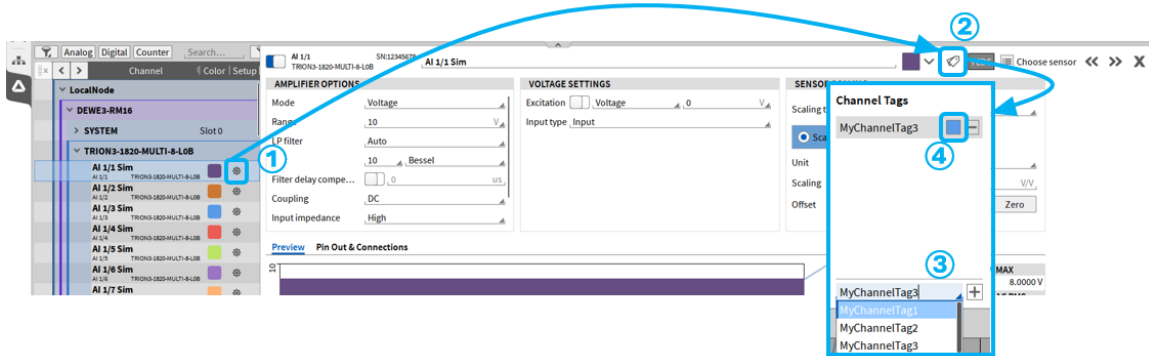
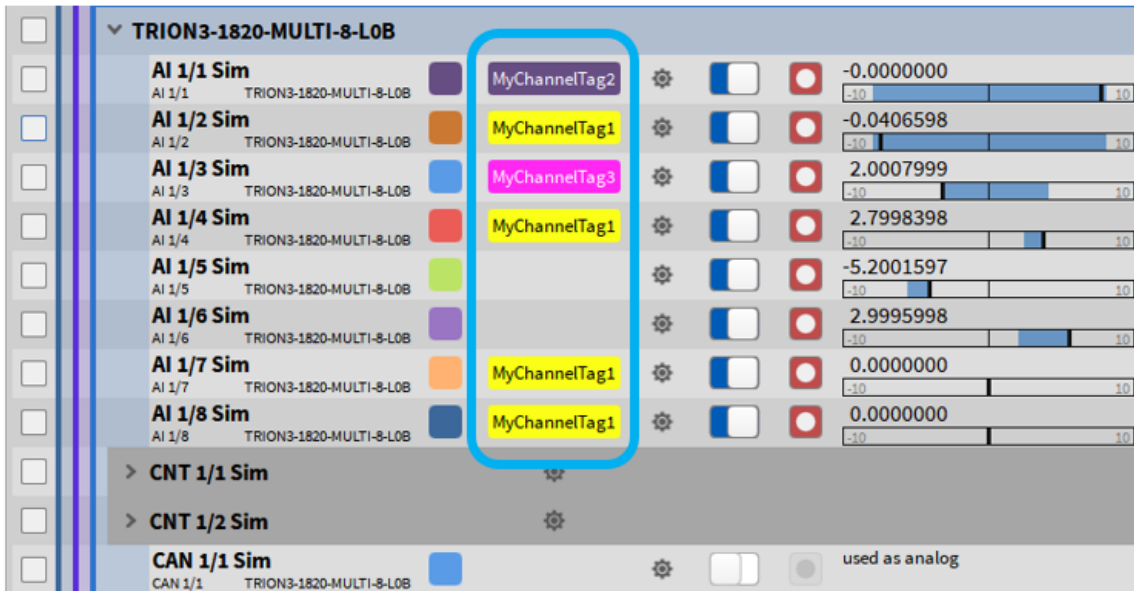

Fig. 7.12: Set Channel Tags for filtering
Fig. 7.13: Channel Tags in channel list
It is possible to define channel Tags and assign channels to them for additional grouping. This is possible in the detailed channels setup, which is accessible by clicking on the gear symbol of a channel (see ① in Fig. 7.12). By clicking on the Tag symbol (see ② in Fig. 7.12) a new window will be opened where a custom Tag name can be entered (see ③ in Fig. 7.12) or it is possible to select an already added channel Tag out of the list when clicking in the text field. By clicking on the “+” button next to the text field, the respective channel will be assigned to the selected Tag.
If a channel is linked to a specific Tag, it will be displayed directly in the channel list next to the name of the channel (see Fig. 7.13). It is also possible to set a specific color for each channel Tag (see ④ in Fig. 7.12). By clicking on one of the channel Tags all channels which are assigned to this Tag will be selected automatically in the channel list.